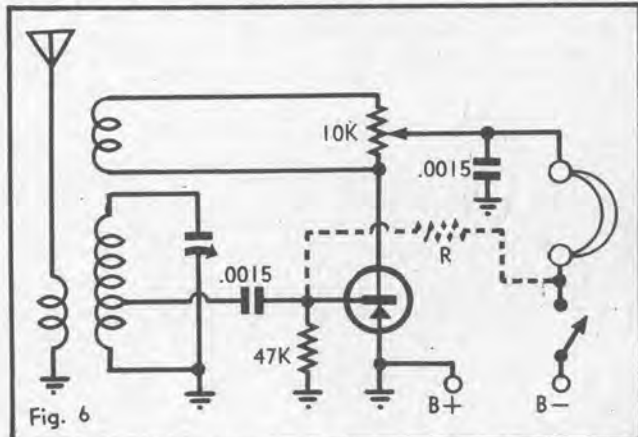
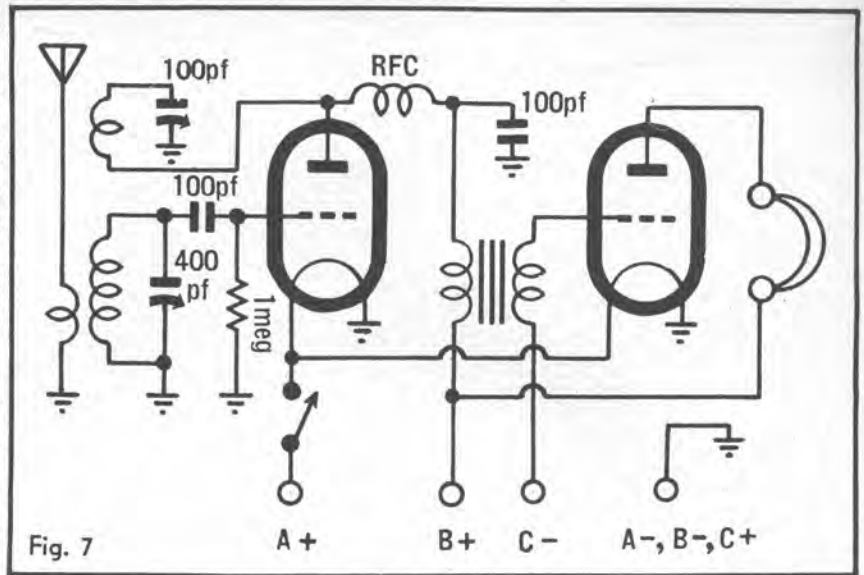
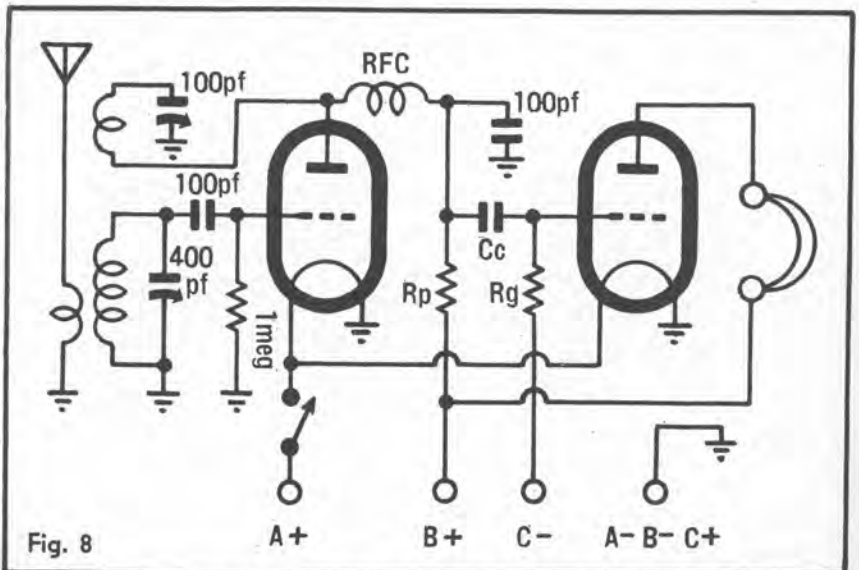
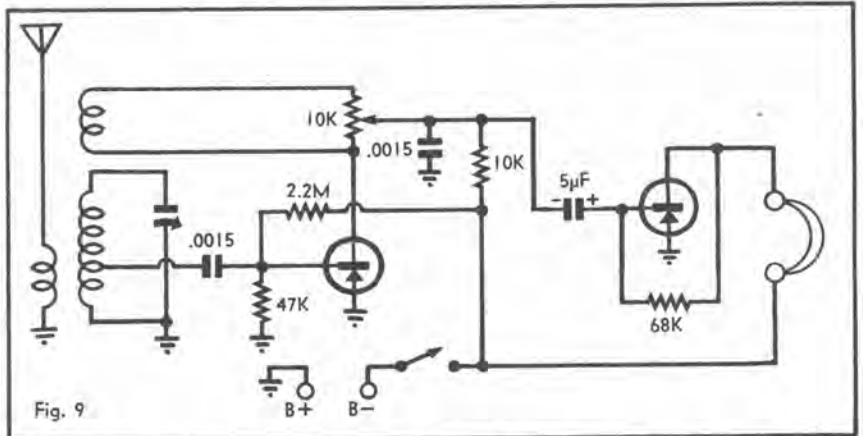

Fig. 6
Fig. 7
Fig. 8
Fig. 9
**Figure 6. Regeneration feedback can similarly be applied to the transistor receiver to improve its gain and selectivity. Due to the lower impedance levels involved, a different method of feedback control is used.**
Figure 7. Adding a further stage of audio amplification can increase the gain of the regenerative one-valve set still further, giving louder reception and making it less critical in operation. Audio transformer coupling between the stages is shown here.
Figure 8. The only difference between this circuit and that of Fig. 7 is that resistance-capacitance coupling is used between the first and second stages. This both improves the listening quality and reduces the cost.
Exactly the same feedback procedure may be performed on the transistor circuit, as figure 6 shows. The regeneration effect is the same and the performance is considerably improved.
For a regenerative detector to operate correctly, it is most important that the amount of feedback be properly adjusted. If there is insufficient feedback, only limited benefit is obtained from the scheme. If there is too much feedback, the detector will oscillate of its own accord and begin to act as a generator of RF energy, exactly as described in the chapter on radio transmitters. (See figure 7, Chapter 8.)
To adjust the reaction in transistor circuits it is more convenient to place a potentiometer across the feedback winding as shown in figure 6, because of the lower circuit impedances. With the slider of the potentiometer at the collector end no voltage is developed across the potentiometer and coil, while a controlled amount of voltage drop may be produced by moving the slider toward the other end to pass current through an increasing amount of the potentiometer and feedback coil.
In transistor circuits of this type it is fairly common to wire a high-value bias resistor (about 2.2 Megohms) between the base and the negative pole of the battery. This is shown dotted in Figure 6 as "R," and is done to improve the performance by allowing the transistor to amplify the detected signals at its base more efficiently.
Figure 9. A transistor receiver which is the counterpart of the valve circuit shown in Fig. 8. Only one supply battery is required, whereas the valve circuit requires three different supplies. The transistor biasing system is explained in the text.
This gives the basic circuit shown in figure 7, if valves are used.
Figure 8 is similar to figure 7 except that resistance-capacitance coupling is used between the detector and audio amplifier stage. Some discussion relevant to the operation of this circuit appeared in Chapter 6 of this series, to do with valves.
Just as further audio stages can be added to the one-valve reaction set, they can be added to a one-transistor reaction set. Figure 9 shows a two-transistor set formed by adding an audio stage to the circuit of Figure 6. Resistance-capacitance coupling is used just as in the valve circuit of Figure 8, the earphones